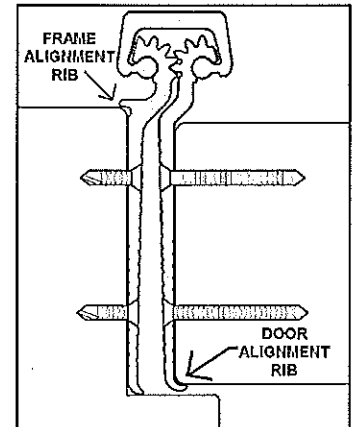

Fig. 2
- With the hinge open, place the hinge door leaf against the edge of the door making certain that the door alignment rib is flush against the door face along its entire length. (See Fig. 2). Position the top of the hinge flush with the top of the door.